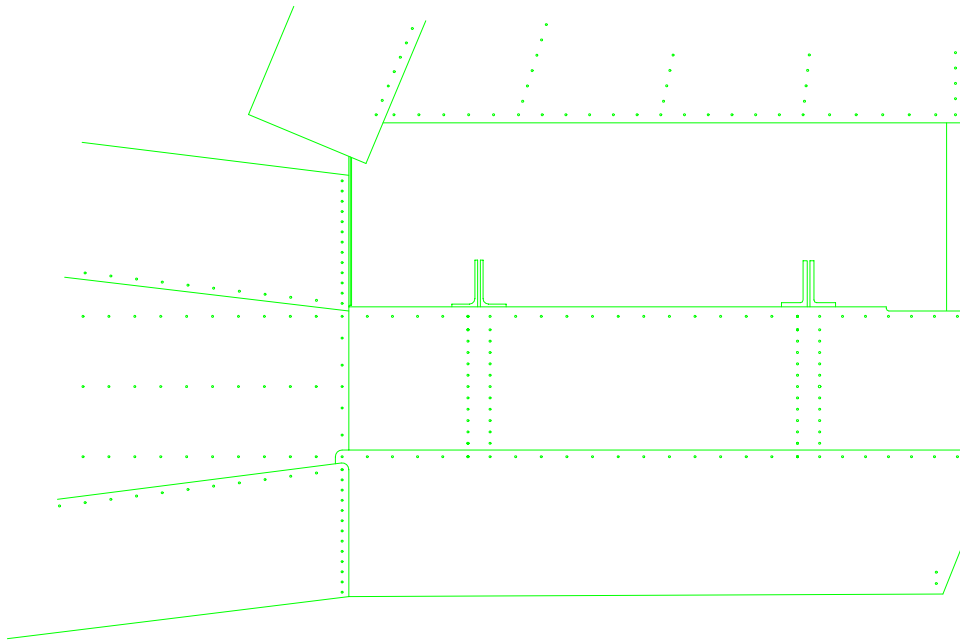

FIGURE 32
- 105) Trim to final shape. Use 5/16" for all edge distances. From the spar to the spar doubler trim on an angle. Figure 32.